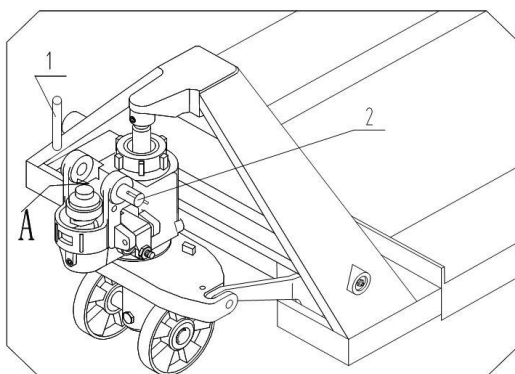

Fig. 1
2.1.1 See fig 1. Dismantle the temporary spring pin from the pin roll (2) and pull out the pin roll.